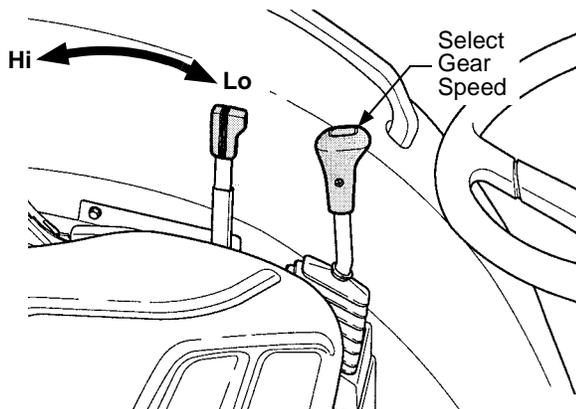

Figure 28
- Shift the Main Shift Lever to desired gear speed. See Figure 28.
- Shift the Hi-Lo Range Shift Lever to desired range. See Figure 28.